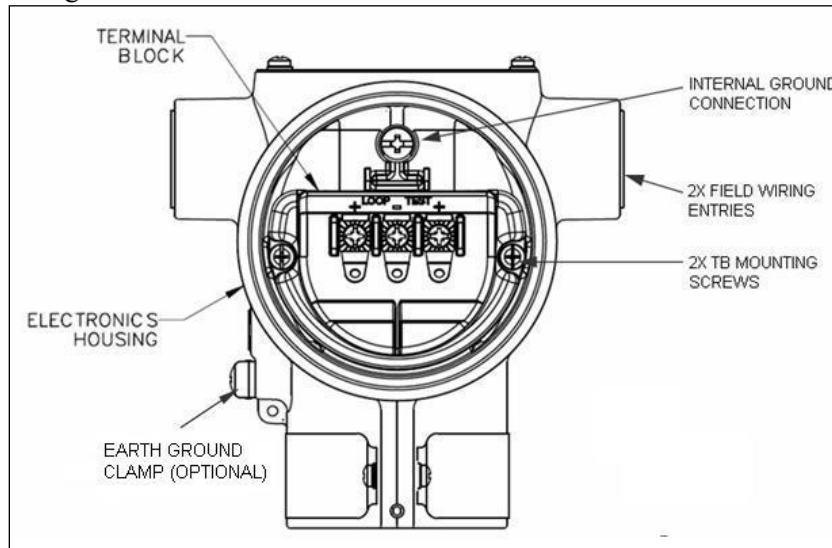

Figure 15 – Transmitter 3-Screw Terminal Board and Grounding Screw
Loop wiring is connected to the transmitter by simply attaching the positive (+) and negative (–) loop wires to the positive (+) and negative (–) terminals on the transmitter terminal block in the electronics housing shown in Figure 15.
As shown in Figure 15, each transmitter has an internal terminal to connect it to earth ground. Optionally, a ground terminal can be added to the outside of the electronics housing. While it is not necessary to ground the transmitter for proper operation, doing so tends to minimize the possible effects of noise on the output signal and affords protection against lightning and static discharge. An optional lightning terminal block can be installed in place of the non-lightning terminal block for transmitters that will be installed in an area that is highly susceptible to lightning strikes.
1. See Figure 15, above, for parts locations. Loosen the end cap lock using a 1.5 mm Allen wrench.
If your transmitter includes the optional lightning protection, connect a wire from the Earth Ground Clamp (see Figure 15) to Earth Ground to make the protection effective. Use a size 8 AWG or (8.37mm²) bare or green covered wire for this connection.